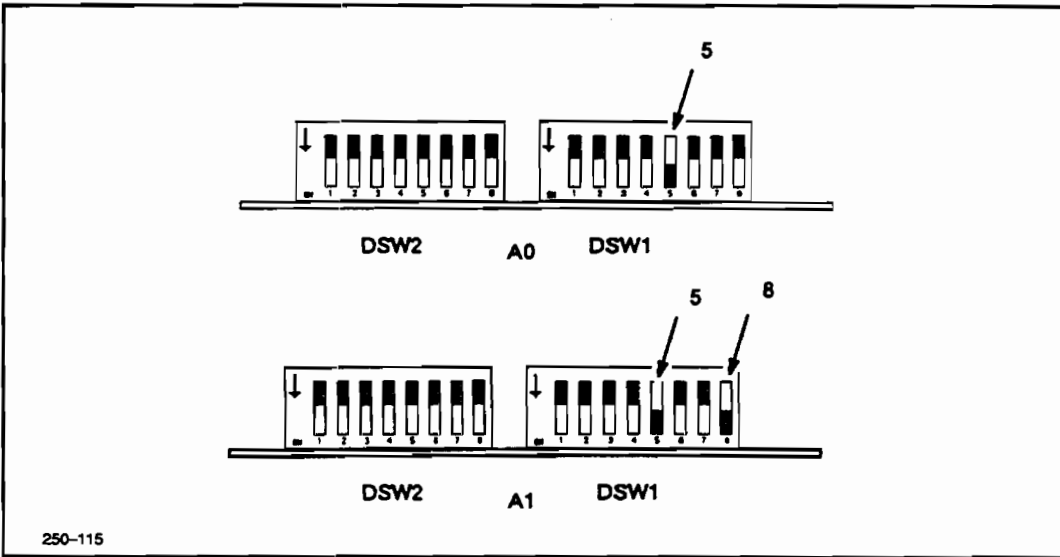

Figure 6-39. RMC PCA Switch Positions
2. For the E/A0 plotter Model 255, all other switch segments are in the OFF (up) position. See Figure 6-39.
3. For the D/A1 plotter Model 250, also set DSW1 segment 8 to the ON (down) position. See Figure 6-39.